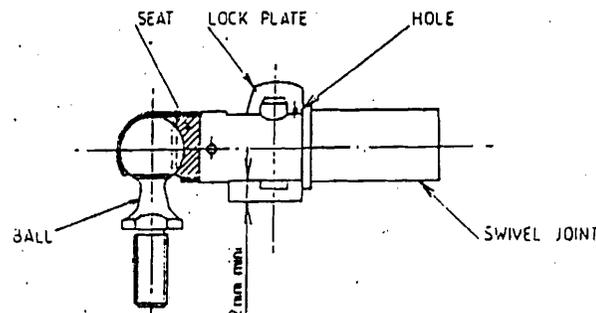

FIG. 1
- 2.5. MEASUREMENT OF THE LOCKER LOWER PART PROJECTION AFTER ASSEMBLY OF THE SWIVEL ON THE BALL (See fig. 1)
#### 2.5. MEASUREMENT OF THE LOCKER LOWER PART PROJECTION AFTER ASSEMBLY OF THE SWIVEL ON THE BALL (see fig. 1)